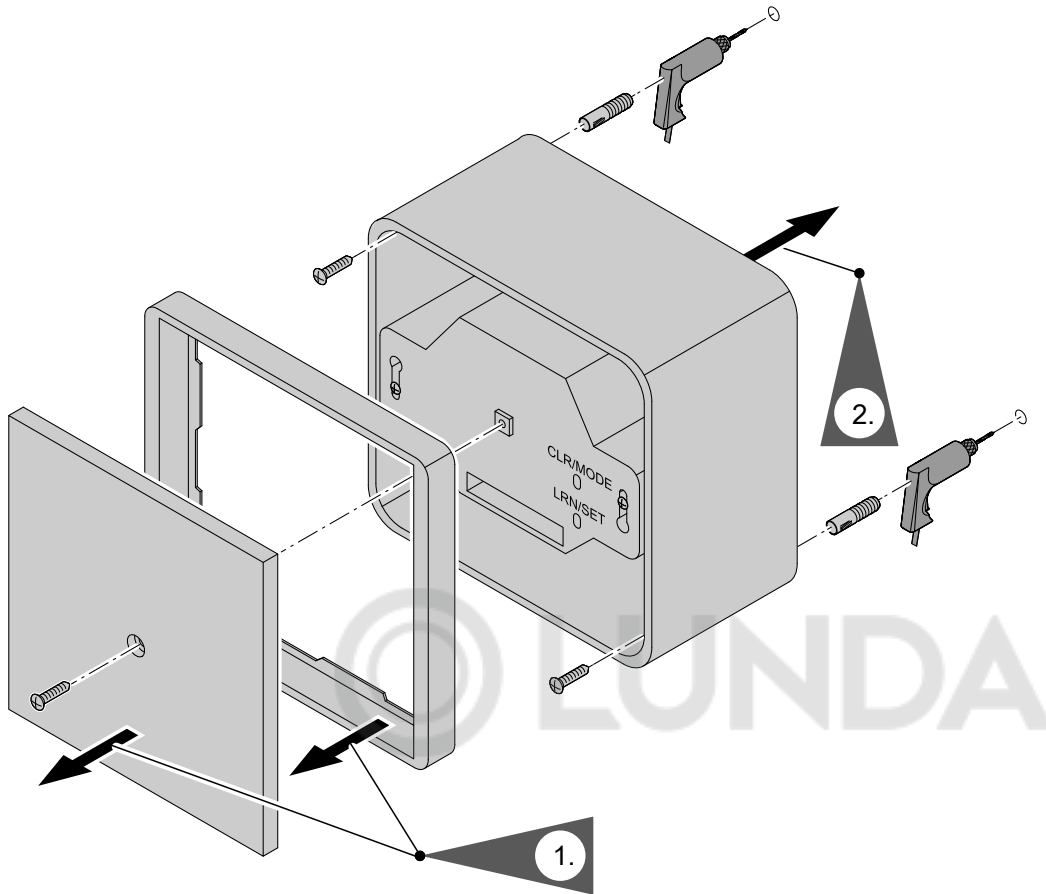

Fig. 14
4. Close the wireless receiver; perform steps in Fig. 14 in reverse order.